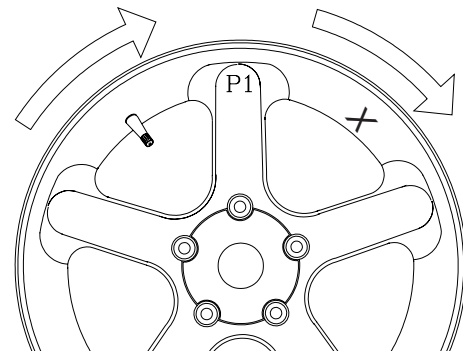

Figure 34
7. The display will read **"SPO 1"**. Locate the first spoke nearest to top dead center and rotate the wheel so that spoke is at top dead center. See Figure 34. Press **P** to store first position.